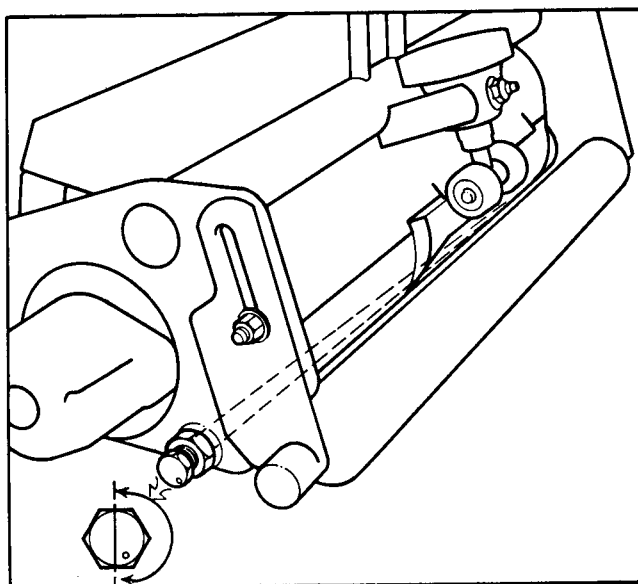

Figure 9
4. Loosen jam nut on left hand bedbar pivot bolt so bolt can be turned. Left hand pivot bolt (eccentric bolt) has offset thread which, when rotated, acts as a cam to raise or lower the bedbar. Identification dot on bolt head denotes offset of bolt. When dot is in up position (Fig. 9) left end of bedbar is raised. As bolt is turned clockwise and dot is lowered, so is left end of bedbar. Identification dot must be positioned within rear (180°) position when adjusting.